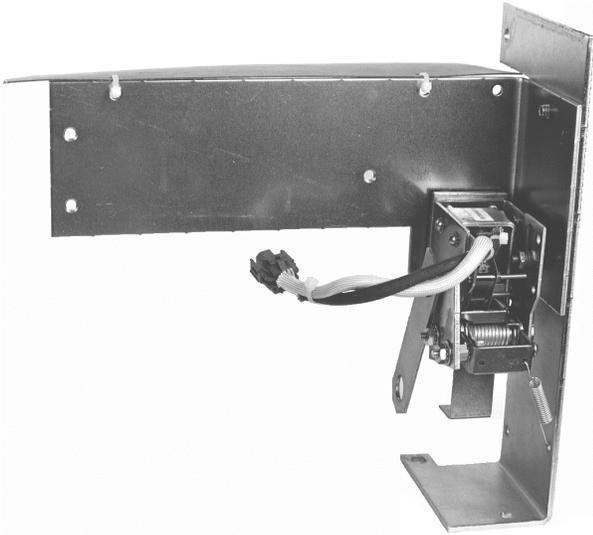
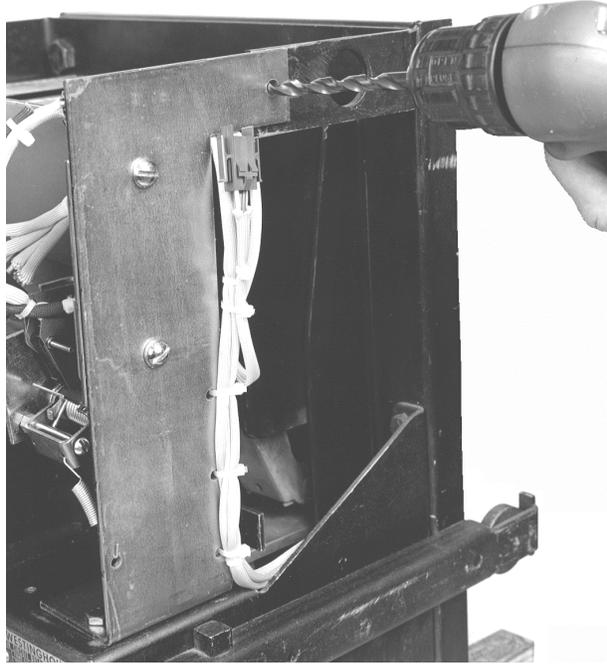

Figure 12. Flux shifter assembly and mounting bracket.
Figure 13. Drilling the flux shifter bracket mounting hole.
1. Before the flux shifter assembly, shown in Figure 12, can be mounted on the breaker frame, a clearance hole for a $\frac{1}{4}$ " bolt must be drilled in the top right lifting bar. Align the base of the flux shifter mounting bracket with the existing holes in the breaker frame and drill the top hole into the breaker frame, as shown in Figure 13. The mounting bracket must be parallel with the breaker back frame.